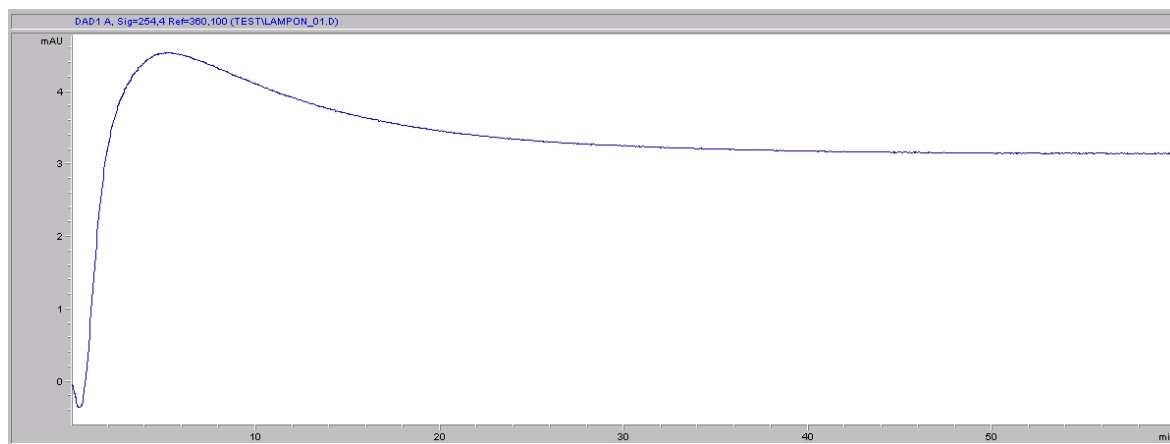

Figure 35 Stabilization of Baseline (both lamps turned on at the same time)
- 6 Allow the detector to warm up at least 60 minutes to provide a stable baseline (see example in Figure 35 on page 92 and Table 23 on page 92).